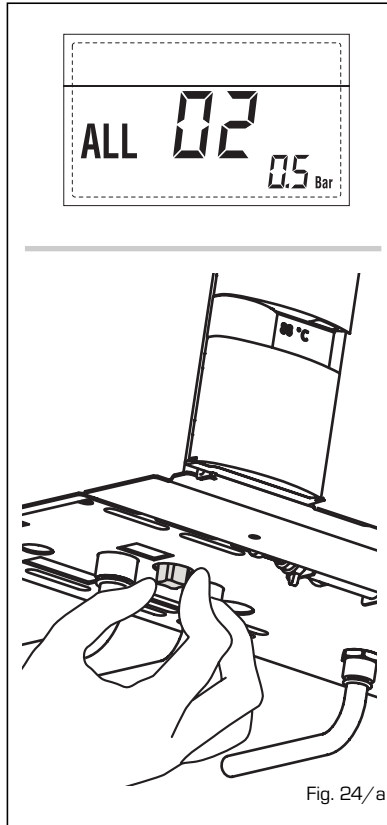

Fig. 24/a
**- HIGH WATER PRESSURE ANOMALY ALARM 03** (fig. 24/b)